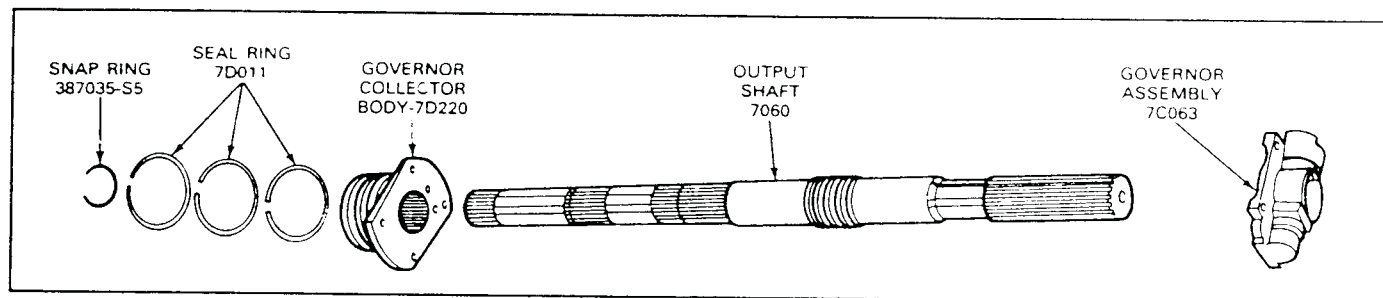

FIG. 28 Output Shaft Disassembled
2. Remove and discard the snap ring that secures the governor oil collector body on the output shaft (Fig. 28) and slide the governor off the front of the shaft.
3. Position the governor assembly on the oil collector body (Fig. 28) and secure with the attaching screws. Tighten screws to 10.5-13.5 N·m (90-120 in.-lbs).